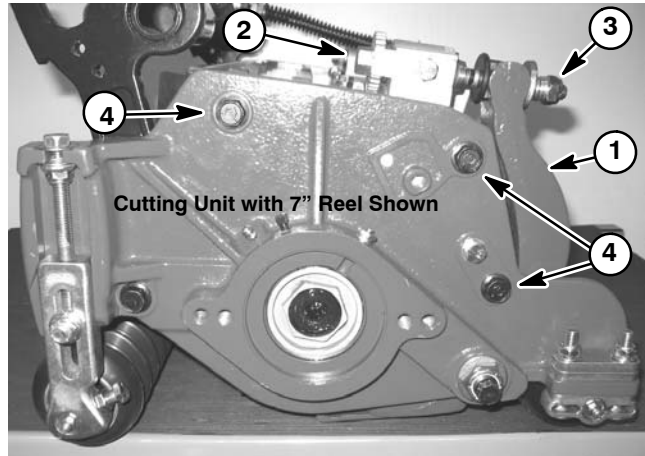

Figure 18
4. Loosen, but do not remove, shoulder bolts that secure the side plate to the frame opposite the side that is not level (Fig. 18).